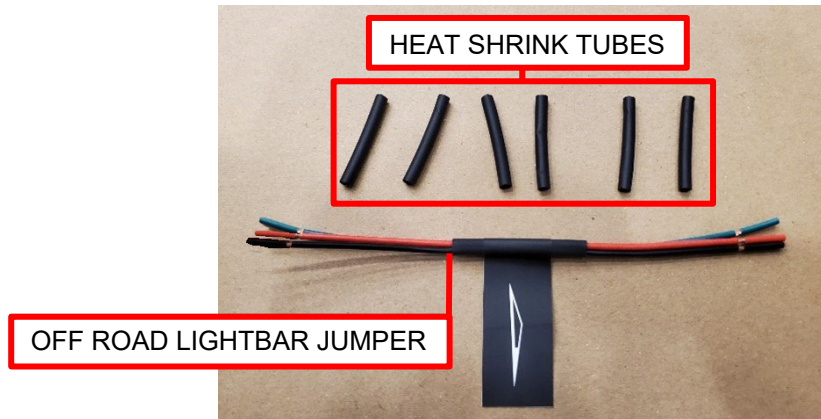

Figure 9
10. Prepare the off road lightbar jumper and heat shrink tubes (x6) for installation (Figure 9).